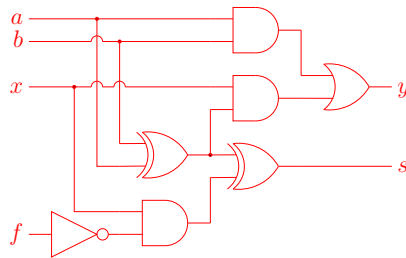

Figure 7: Schematic of the **ae1** element
- The schematic of **ae1** is shown on Figure 7. It is slightly optimized by reusing the same XOR gate for the addition and bitwise XOR operations.